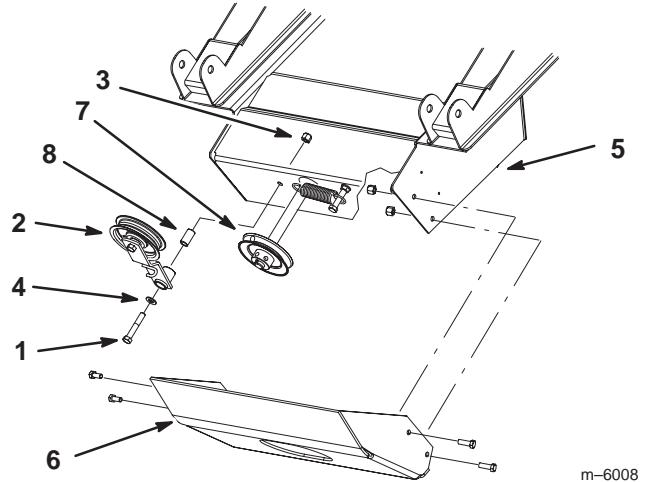

Figure 18
1. Remove the four bolts in the skid plate (Fig. 18).
2. Remove the skid plate (Fig. 18). This will make it easier to install the bagger belt.
2. Route the bagger belt onto the bagger pulley (Figures 18 and 20).
3. Remove the bolt, washer, spacer, and locknut from the tensioner pulley arm (Fig. 18).
4. Install the tensioner pulley arm to the bagger with the previously removed bolt, washer, spacer, and locknut (Fig. 18).